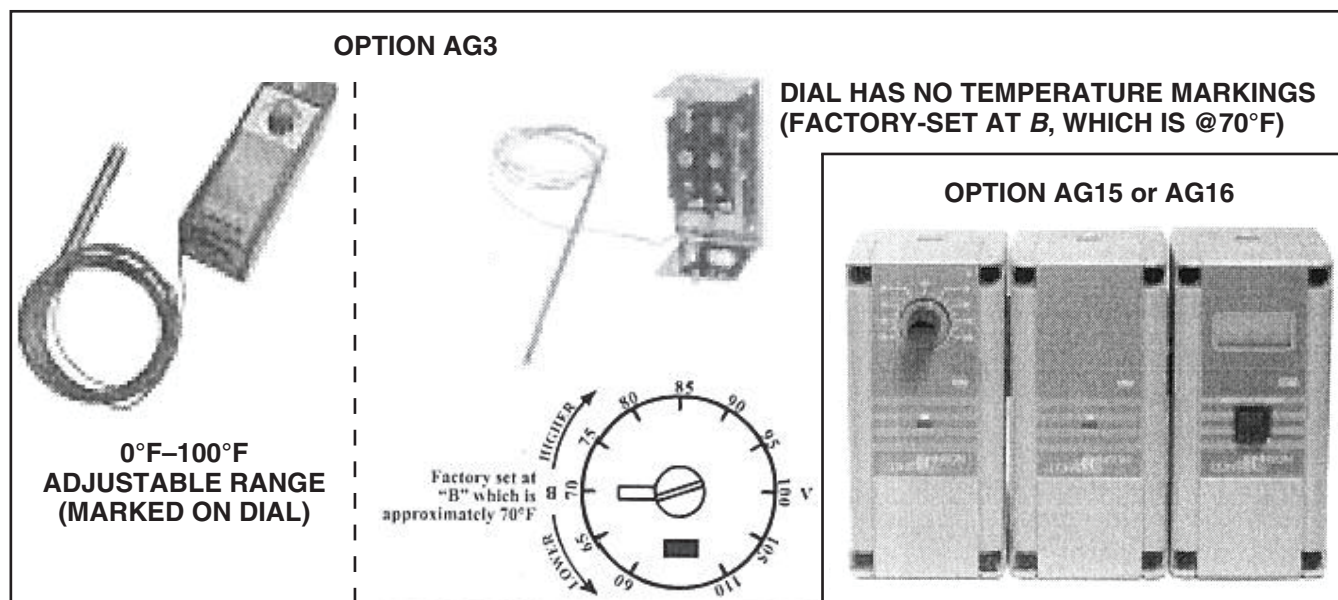
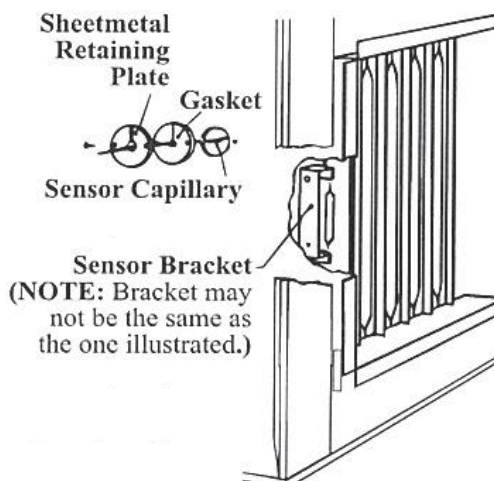

Figure 17. Makeup Air Two-Stage Controls
Figure 18. Duct Temperature Sensor Location
- Depending on the option selection, the factory-installed sensor is either field-connected by capillary tubing to the unit-mounted ductstat or electrically-connected to a remote electronic temperature selector (see Figure 17). The remote temperature selector is available with or without a display module. See Figure 18 for a general location of the factory-installed sensor with either the factory-mounted or remote ductstat selector option.
- Optional ductstat with capillary tubing (option AG3):** Either of the option AG3 controls shown in Figure 17 is used with the optional ductstat with capillary tubing. Both controls are factory-set to 70°F and have an adjustable range with a fixed differential of 2.5°F. Due to different CFM settings and outside air temperatures, the average downstream outlet temperature may not exactly match the ductstat setting. After the installation is complete, adjust the setpoint of the ductstat to achieve the desired average outlet air temperature.
- Optional ductstat with electronic remote setpoint module (option AG15 or AG16):** The field-installed sensing probe is field-wired to a remote temperature selector with an operating range up to 130°F. The remote modules and sensing probe shown in Figure 17 are shipped separately for field-installation. There will be one module for selecting temperature and one stage-adder module. The digital display module is optional. Follow the wiring diagram provided with the unit and the manufacturer's instructions for wiring and installation.
- The general location of the factory-installed sensor is shown in Figure 18. Access the sensor element as follows: